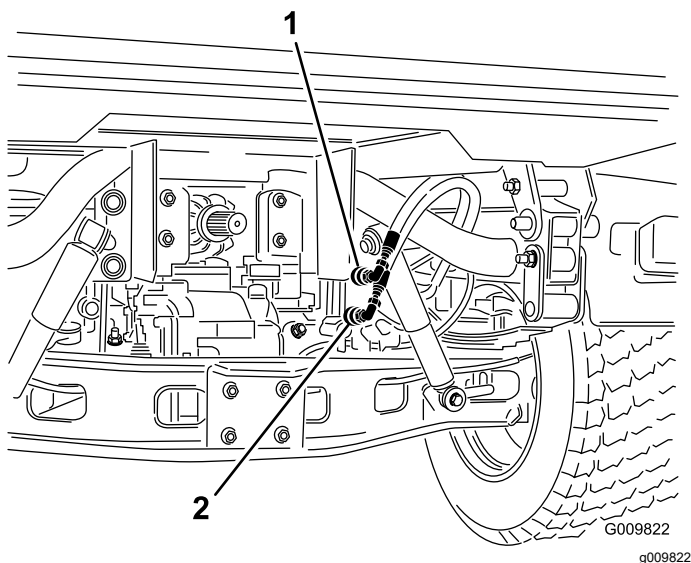

Figure 75
2. On both machine, disconnect the 2 quick-coupler hoses from the hoses secured to the coupler bracket (Figure 75).